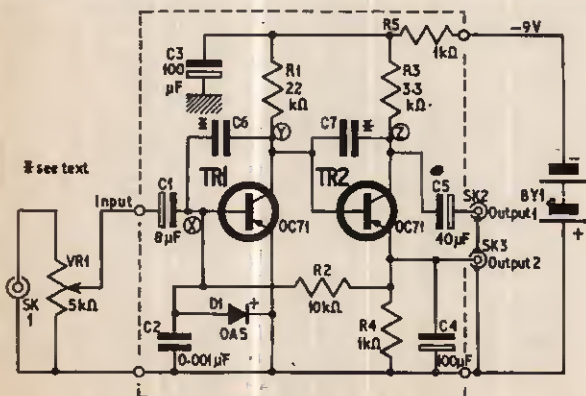
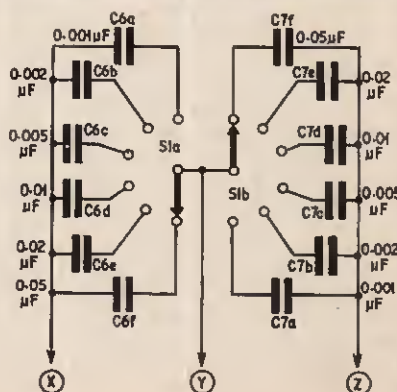

Fig. 1. Circuit diagram of the pre-amplifier modified to form a bass booster
Fig. 2. Capacitors  $C_6$  and  $C_7$  can be replaced by a stepped control connected to (X), (Y), (Z) on the pre-amplifier
Fig. 1 below shows the circuit of the pre-amplifier with two feedback capacitors  $C_6$  and  $C_7$  added. Different values of capacitor may be used for different degrees of bass boost; if only a small amount of boost is required  $C_6$  could be  $0.005 \mu\text{F}$  and  $C_7$  should be omitted. A larger degree of boost is achieved when  $C_6$  is  $0.01 \mu\text{F}$  and  $C_7$  (also  $0.01 \mu\text{F}$ ) is inserted. The bass can be boosted further by doubling these values so that  $C_6$  and  $C_7$  are  $0.02 \mu\text{F}$  each.
It may be preferable to fit switched variable bass boost control. Here the circuit is basically the same, but  $C_6$  and  $C_7$  are replaced by the network shown in Fig. 2. This is easily made up on a two-pole, six-way rotary wafer switch  $S1$  and connected to the pre-amplifier at points (X), (Y), and (Z). Figs. 1 and 5 show the appropriate positions.
Fig. 4 shows the basic pattern of the printed circuit board full size. The link wires at positions B, C and D only are used. Components for the circuit in Fig. 1 are mounted on the board as shown in Fig. 5.
If C6 and C7 are replaced by the stepped control (Fig. 2) lead out wires should be connected at points (X), (Y), and (Z) for linking the control. ★